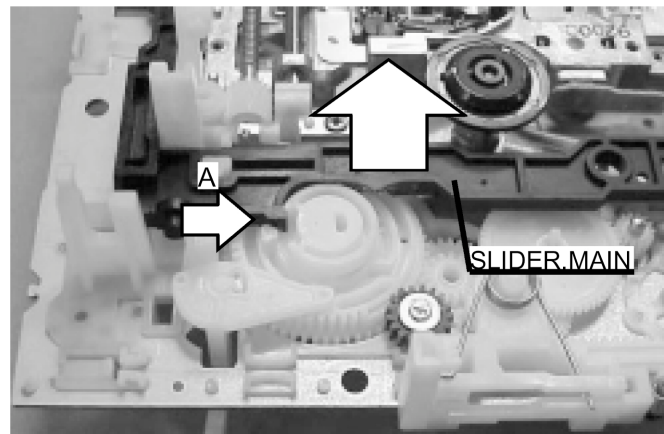

Fig.6-2
- 2) Slide the SLIDER, MAIN in the direction of the arrow A as shown in Fig. 6-2.